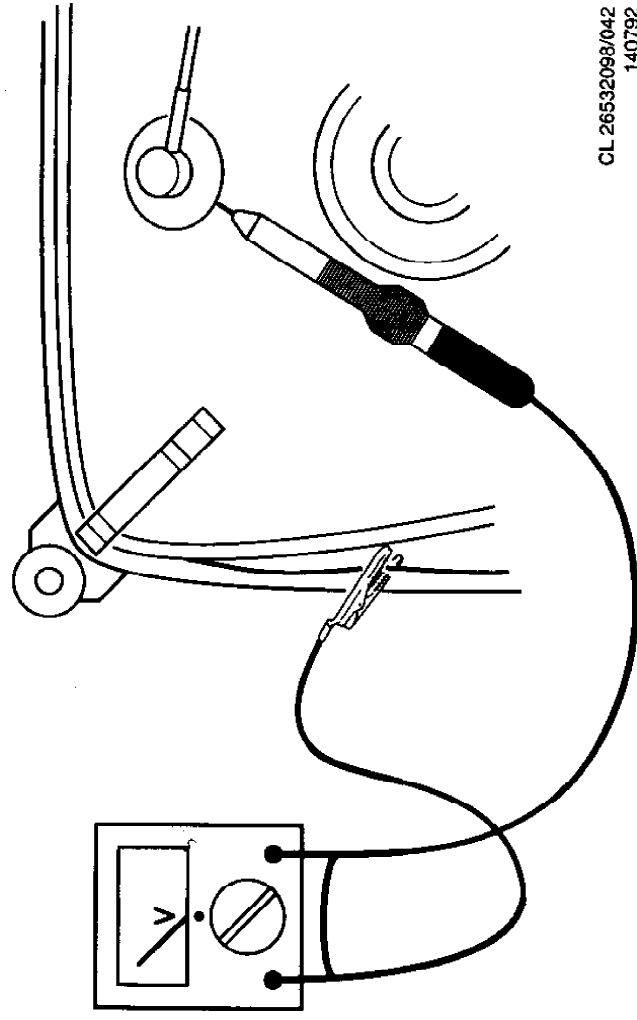

Figure 2-4
4. In order to prevent damage to ICs and transistors, all high-voltage flashovers must be avoided. In order to prevent damage to the picture tube, the method shown in Fig. 2-4 should be used to discharge the picture tube. Use a high-voltage probe and a multimeter (position DC-V). Discharge until the meter reading is 0V (after approx. 30s).